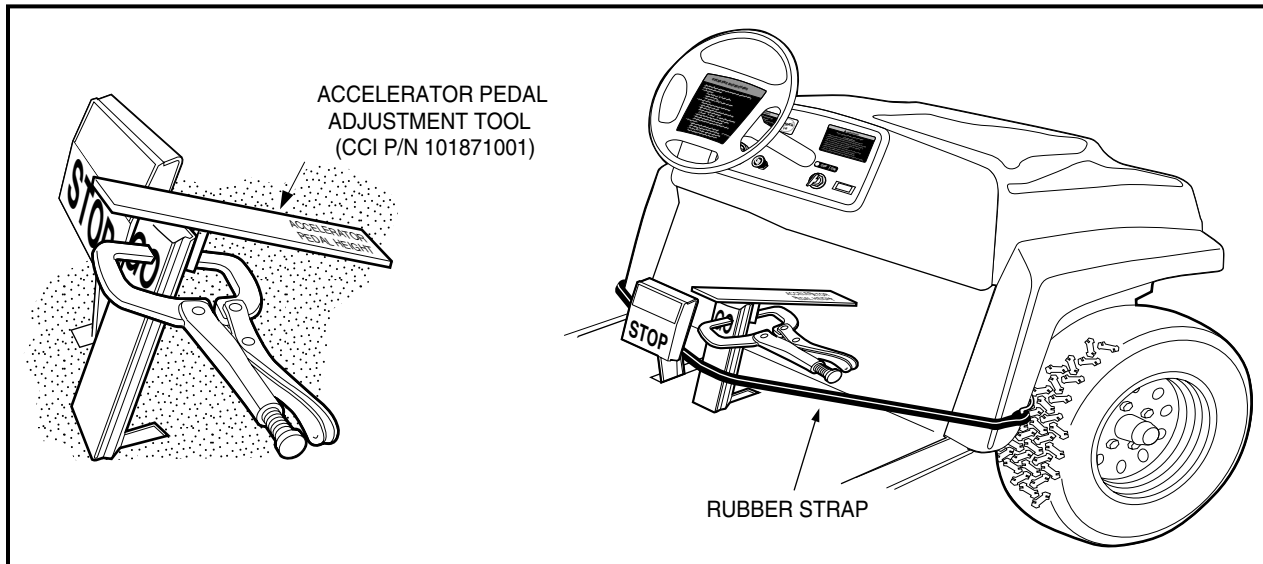

Figure 5-9 Accelerator Pedal Height Adjustment
- 6.1. Clamp the accelerator pedal adjustment tool (CCI P/N 101871001) to the accelerator pedal, with the end marked **accelerator pedal height** closest to the floorboard (**Figure 5-9, Page 5-8**).
- 6.2. Depress the accelerator pedal until the end of the tool rests against the floorboard. Using a rubber strap, hold pedal in position against the floorboard and tighten nut to 26 ft-lb (35.3 N·m) (**Figure 5-9, Page 5-8**).